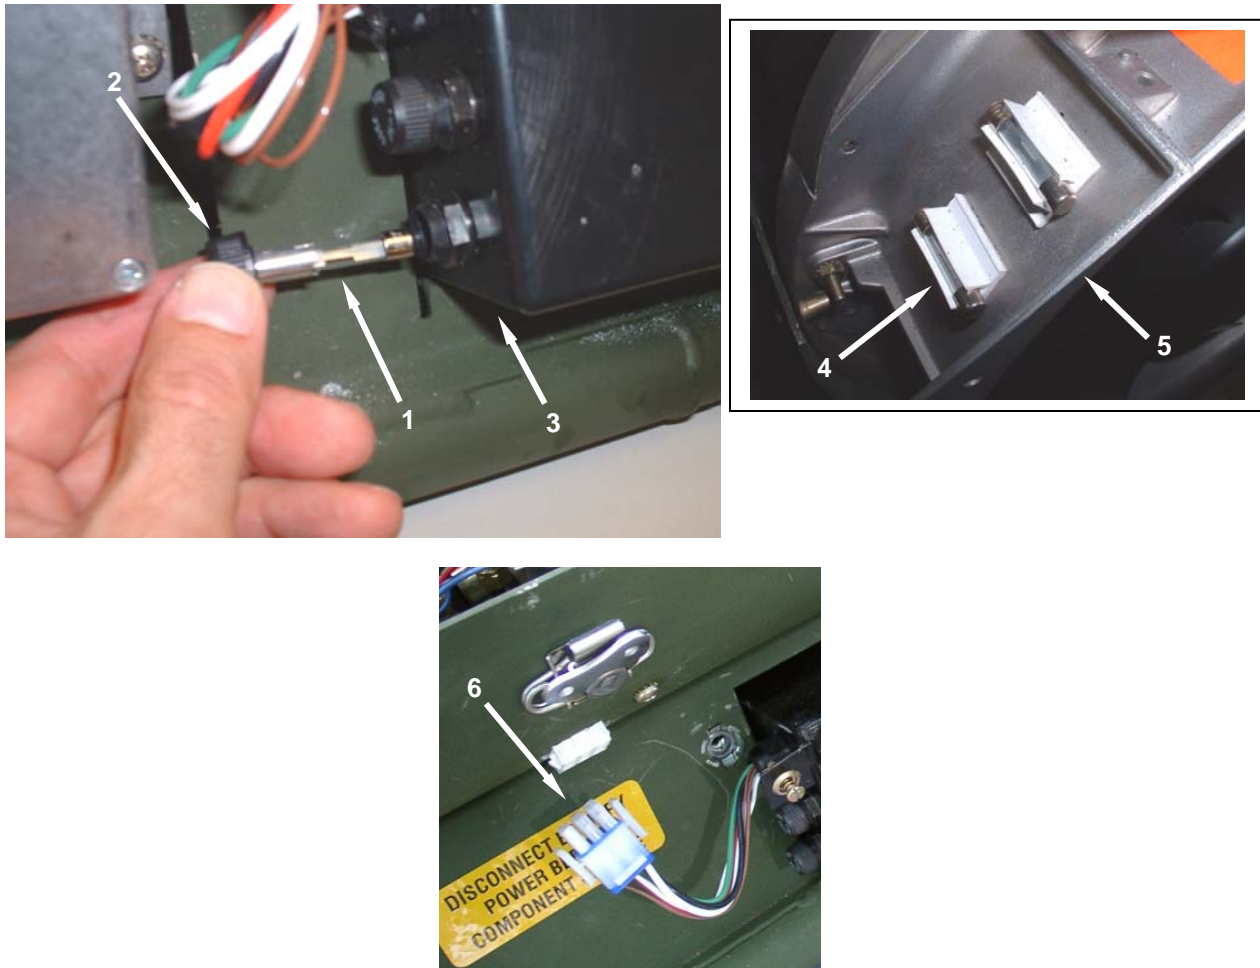

Figure 2. Test Battery Pack Assembly.
1. Before replacing the battery pack, ensure that the two fuses (**Figure 2, Item 1**) are in good electrical working order by removing them from the fuse holders (**Figure 2, Item 2**) on the left side of the battery pack (**Figure 2, Item 3**) and testing for continuity with a multimeter. Continuity through the fuse ensures that it is in good electrical working order.
2. If there is no continuity through the fuse, replace it with a known good fuse from the on-board spare parts (**Figure 2, Item 4**) located at the inlet end (**Figure 2, Item 5**) of the heater.
3. If the fuses are both in good electrical working order and the battery pack is not supplying power, check the battery voltage without a load. There are two battery circuits in the battery pack. Use a voltmeter to check the voltage on one battery circuit in the pack by inserting the voltmeter probes into the red and black wire pockets in the battery connector (**Figure 2, Item 6**). It should read 12.5 to 13.0 volts. Check the other battery circuit in the pack by inserting the voltmeter probes in the green and white wire pockets in the battery connector (**Figure 2, Item 6**). It should also read 12.5 to 13.0 volts. If either of the two battery circuits in the pack do not read in the 12.5 to 13.0 volt range, recharge the battery as detailed below.